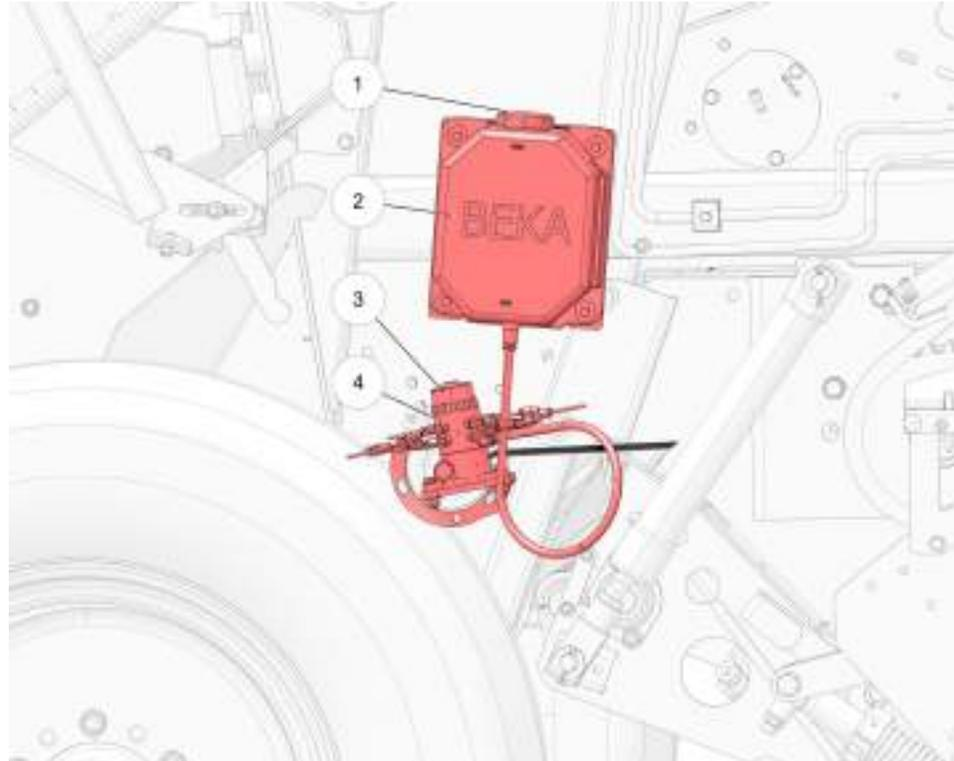

Figure 73. Lubrication oil container and pump
2. Clean the surroundings of the oil container (2) (see Figure 73 on page 11-12), this prevents that dirt falls in the container when you open it.
3. Remove the container cap (1).